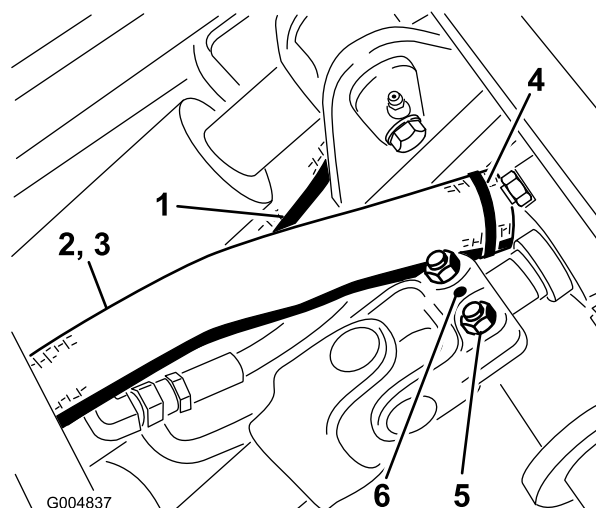

Figure 19
6. Connect the drive shaft to the gear box shaft in the winter frame and torque the bolts (5/16 inch) to 175-225 in-lb (20 to 25 N-m). Install the roll pin (Figure 19).